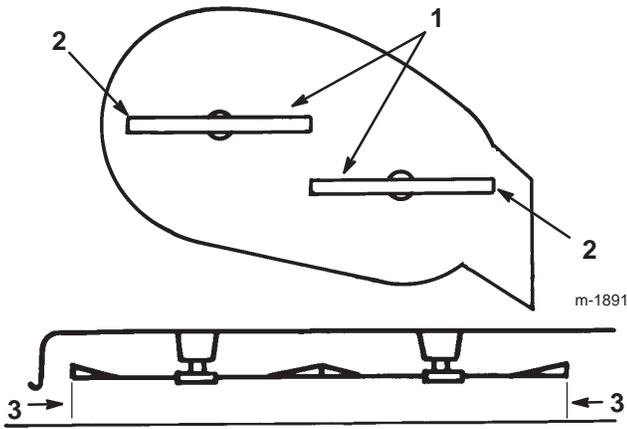

Figure 48
- Carefully rotate the blades side to side (Fig. 48). Measure between the outside cutting edges and the flat surface (Fig. 48). If both measurements are not within 3/16 in. (5 mm), an adjustment is required; refer to steps 9 and 10.